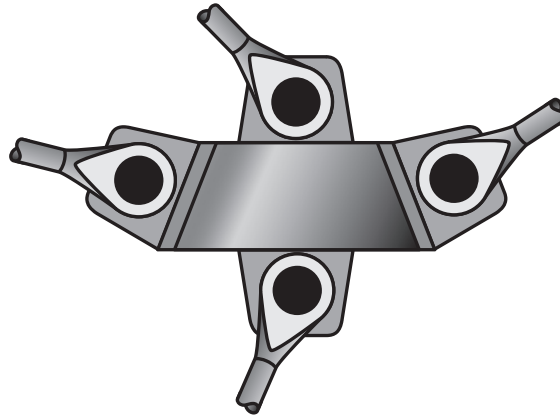

Figure Q3(a)
3. The joint shown in Figure Q3(a) forms part of the roof structure of a new museum.
The forces acting on the joint are in **static equilibrium** and are shown *in simplified form* in Figure Q3(b).